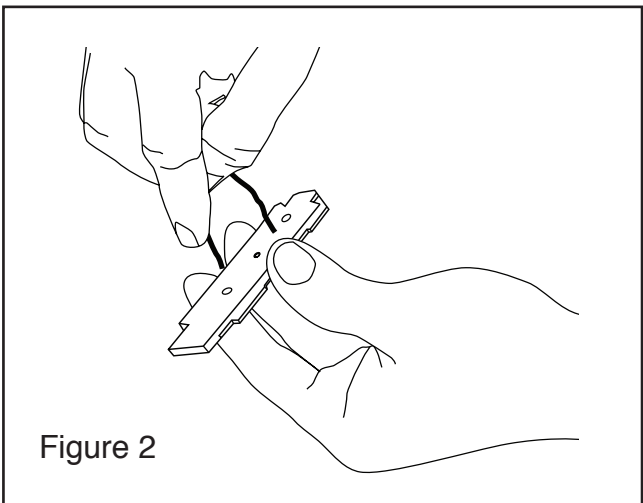

Figure 2
B. Mount Using the Wire Bracket. (see figures 2 through 6)